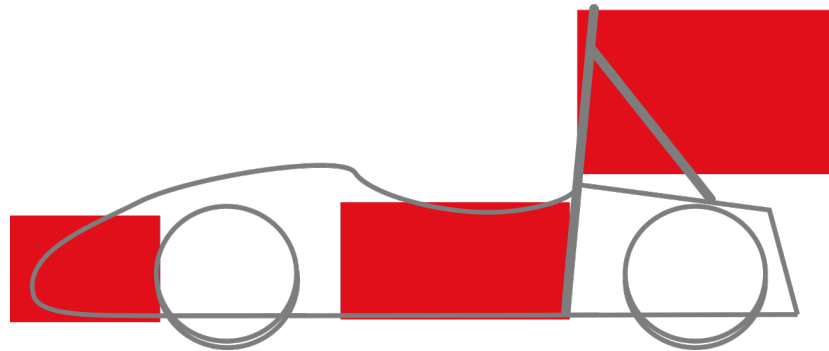

Figure 2: RFID Tag Placement Areas
- DE 5.11.1 In order to have the vehicle be identifiable during dynamic disciplines, Timekeeping will stick three RFID tags to the vehicle. There will be one tag on the front, center and rear of the vehicle. They will all be on the left side (as shown in Figure 2).